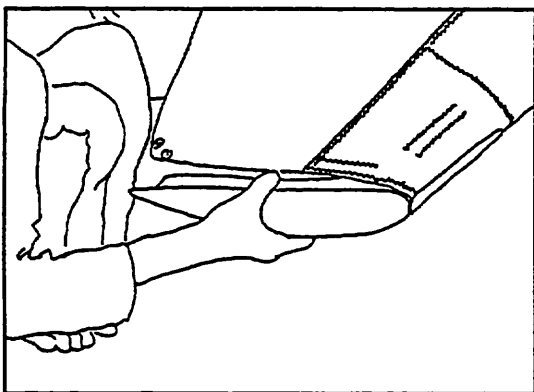

Figure 41
c) Slide the tip fairing into the end of the sail and press the mating velcro surfaces securely together. (Figure 41, 42)